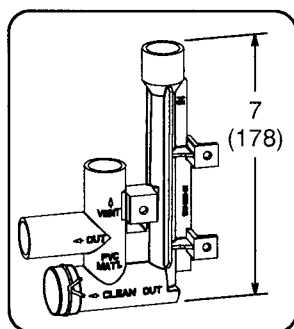

Figure 50. Trap Drain Assembly Using 1/2" PVC or 3/4" PVC
3. Install the cap over the clean out opening at the base of the trap. Secure with clamp. See Figure 50.
4. Install drain trap using appropriate PVC fittings, glue all joints. Glue the provided drain trap as shown in Figure 50. Route the condensate line to an open drain. Condensate line must maintain a 1/4" downward slope from the furnace to the drain.